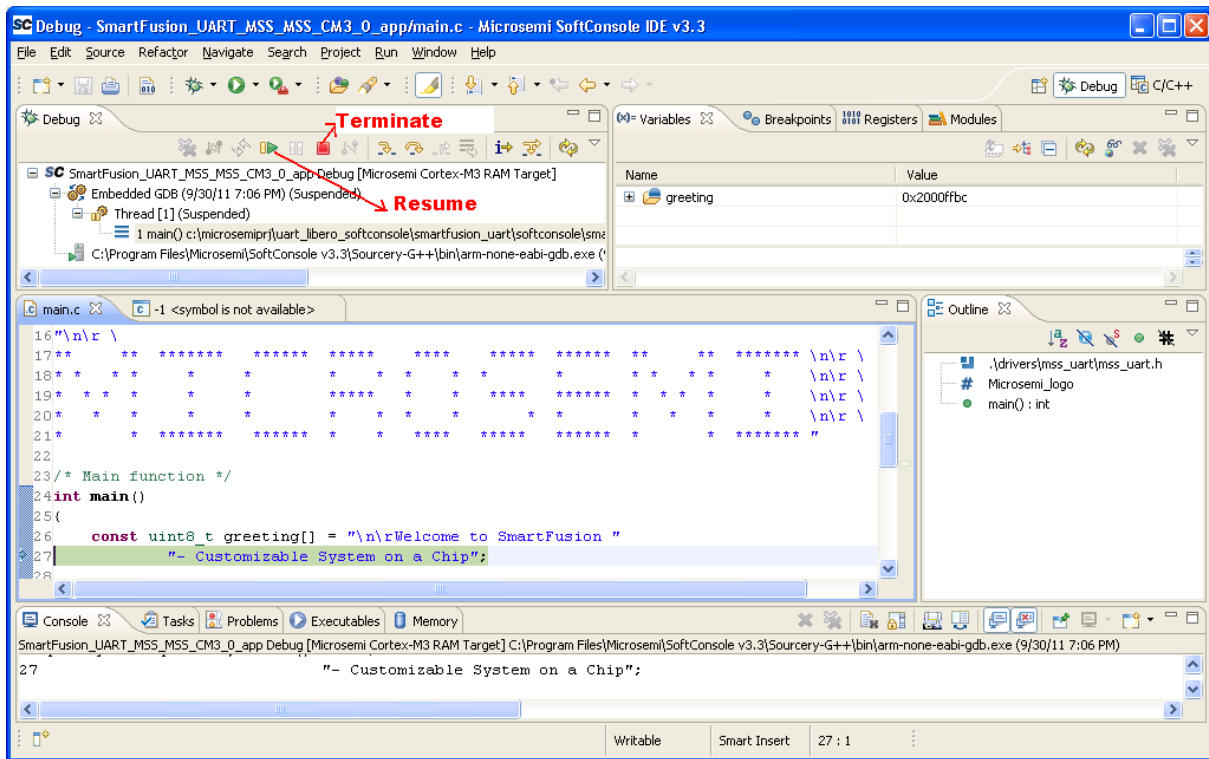

Figure 28 . The SoftConsole Debug Perspective
6. The SoftConsole Debug Perspective window is displayed, as shown in Figure 28 . .